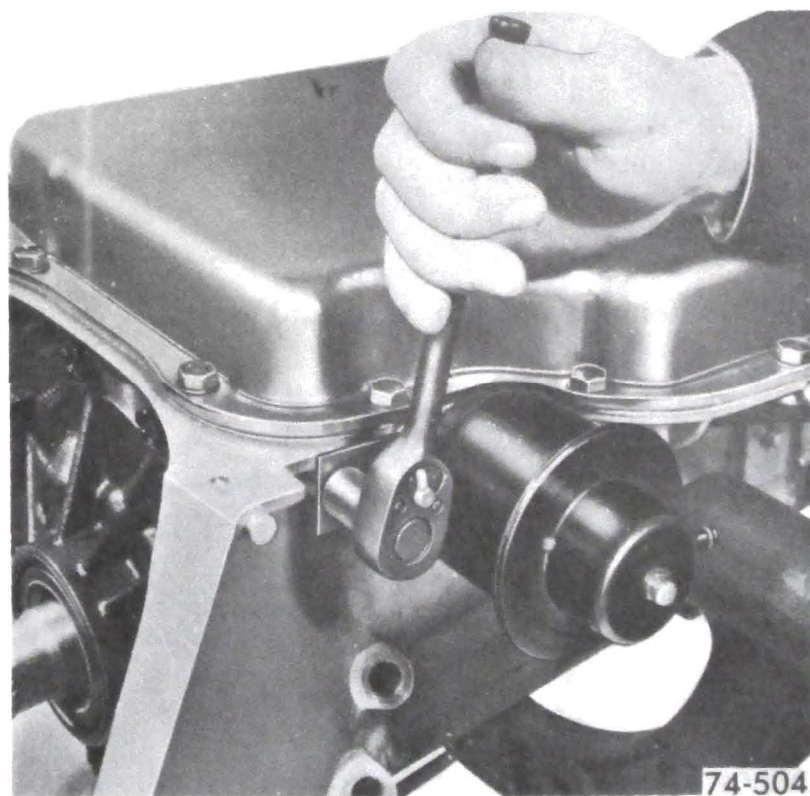

Figure 76-41
4. Remove modulator assembly attaching bolt and retainer. See Figure 76-41.
4. Install the modulator retainer and attaching bolt. Torque bolt to 15-20 lb.ft. See Figure 76-41.